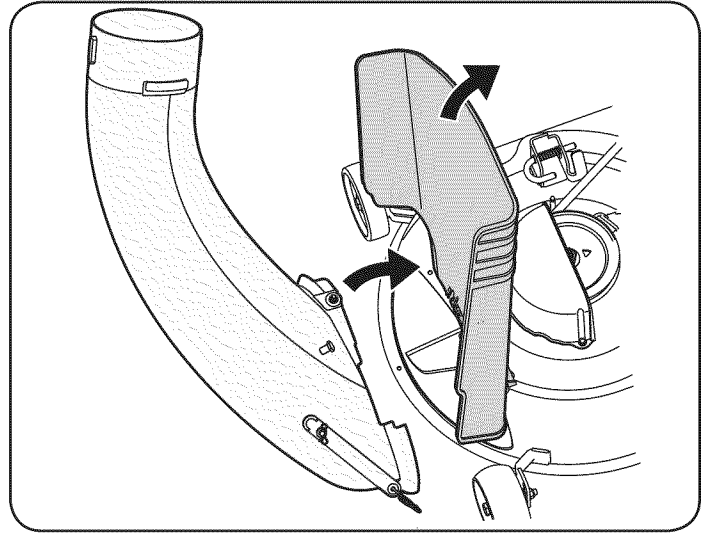
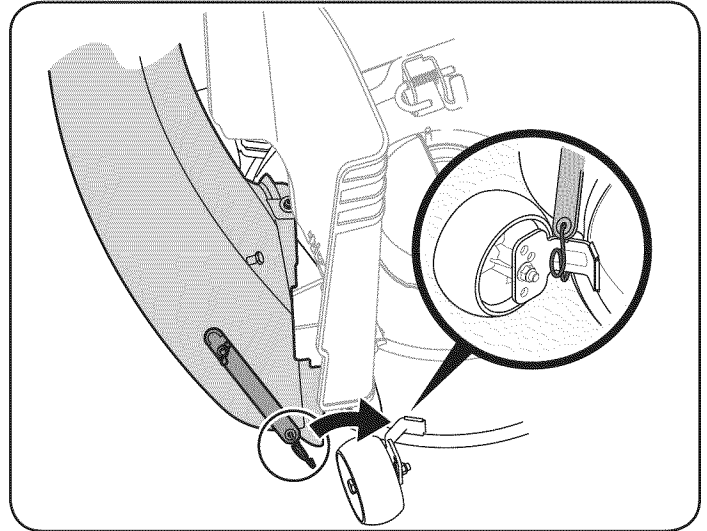

Figure 24
Figure 25
14. With the tractor's discharge chute raised up and held open, install the chute elbow over the chute opening by placing the deck mounting pin in the hole provided, as seen in Fig. 24, then secure the elbow to the deck by hooking the retainer strap hook over the deck wheel mounting bracket as seen in Fig. 25.